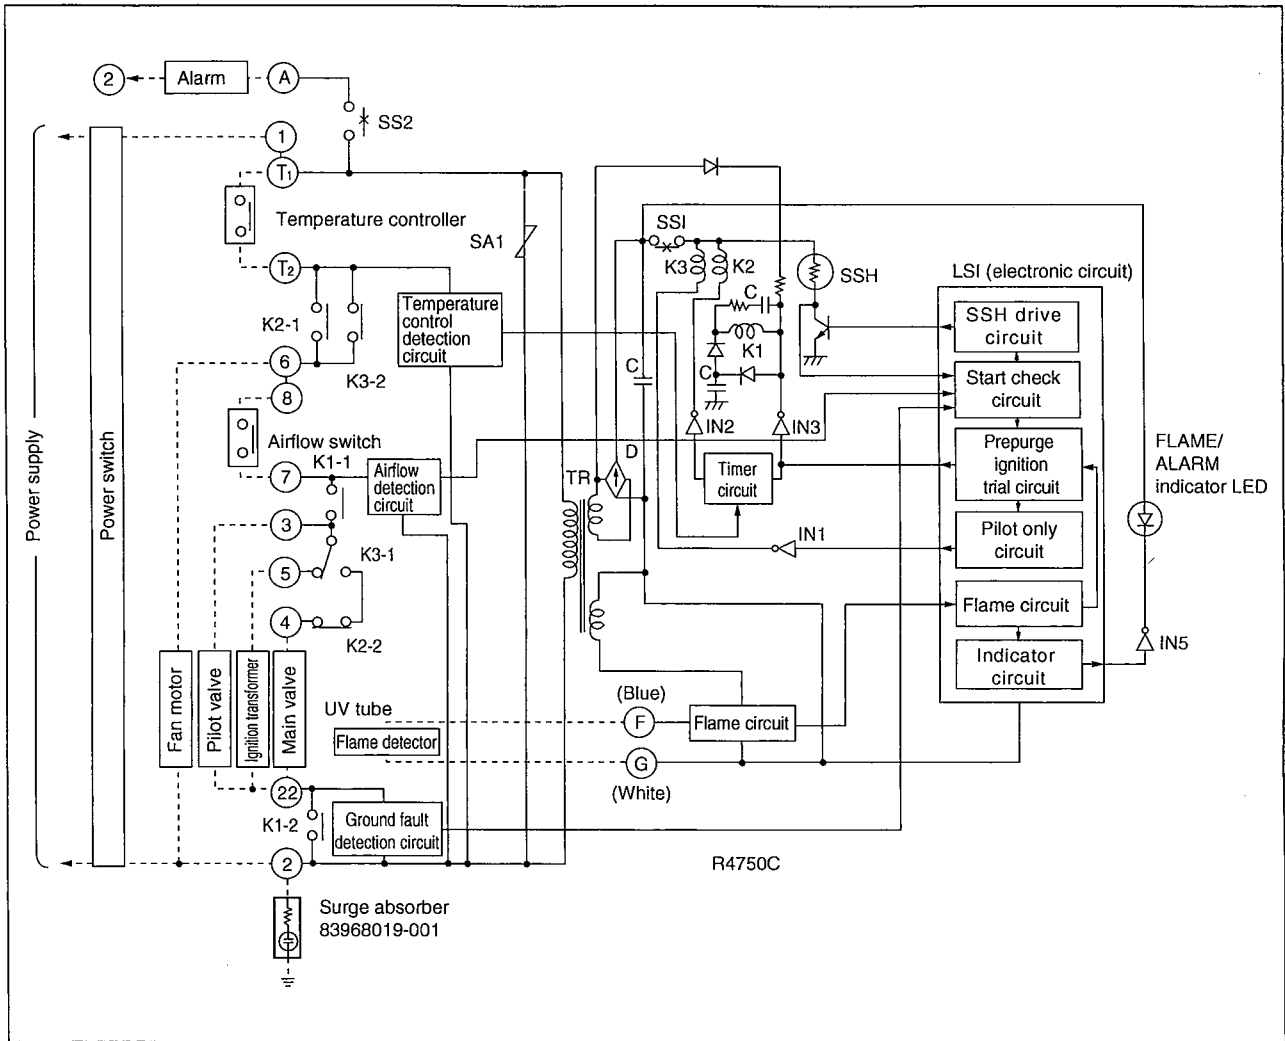
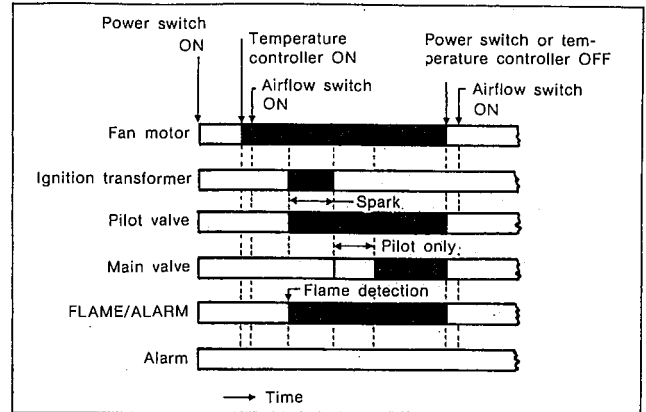

Fig. 9
Fig. 10
1. Normal Operation (See Fig. 9 and Fig. 10)